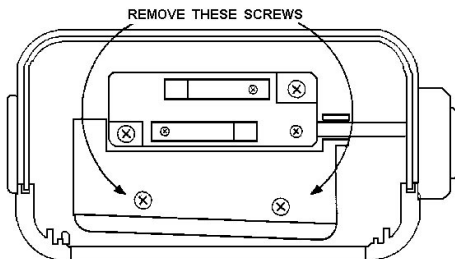

Figure 1 - Bottom of Radio
2. Remove the two front cover retaining screws from the bottom of the unit as shown in Figure 1.
16. Secure the cover by using the two screws (R29/600-757) supplied in the MHDE5U kit in the bottom of the unit as shown in Figure 1. **DO NOT OVERTIGHTEN.**